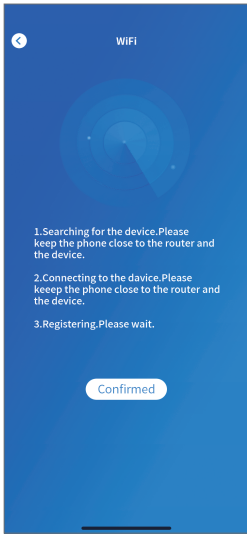
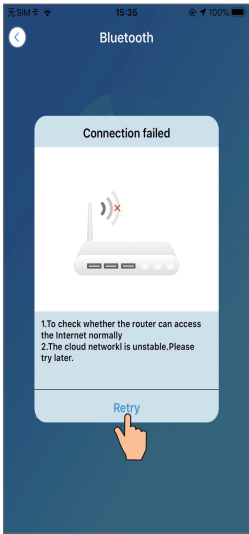
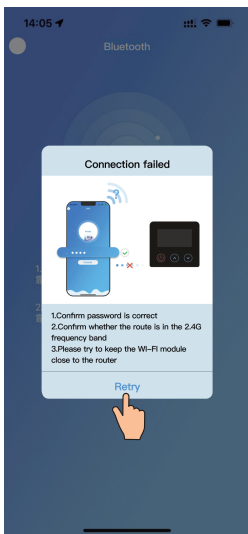

Fig.13 Searching device interface
Fig.14 No network interface
Fig.15 Can't connect to the wifi interface
- 6. Turn on bluetooth and back to the APP, derectly enter the searching device interface(Fig. 13), If t connection fails or succeeds, a pop-up window will appear. If the connection fails(Fig.14/Fig.15), try again as prompted.